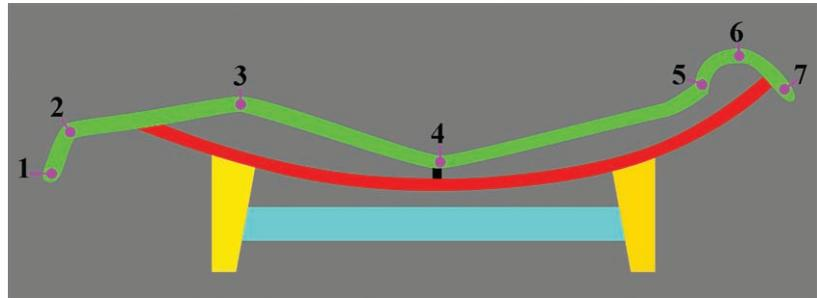
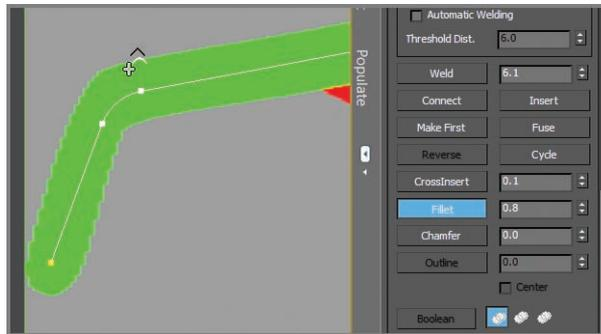

FIGURE 4.19 Create vertex points by following the numbers.
FIGURE 4.20 A vertex fillet creates two vertices from one and curves the segment between.
You will use the Line tool to create a spline that follows the side view of the chair. Refer to Figure 4.19; it shows where the vertices should go (corresponding to the numbers in parentheses in the following steps).
3. Starting at the bottom left of the green line in Figure 4.19, click and release the mouse button to create a corner vertex (1).
4. Move your mouse up and to the right; click and release for a corner vertex (2).
5. Move to the right; click and release for a corner vertex (3).
6. Continue right; click and release for a corner vertex (4).
7. Continue right; click and release for a corner vertex (5).
8. Drag to make a Bezier curve on the green line (6).
9. Right-click and release to create another corner vertex (7), and then right-click to release the Line tool.
11. Select vertex (2) shown in Figure 4.19. In the Geometry rollout, click the Fillet button and drag on the vertex until the curve matches the curve in Figure 4.20, an approximate amount of 0.8.